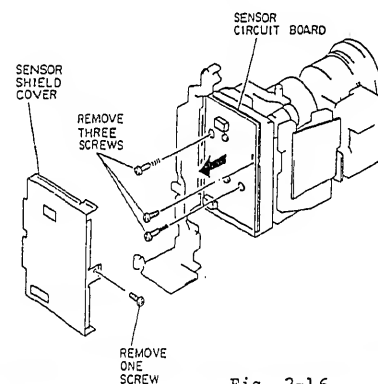

Fig. 2-16
1. Remove one (1) screw holding the sensor shield cover. (See Fig. 2-16)
2. Remove three (3) screws holding the sensor circuit board.